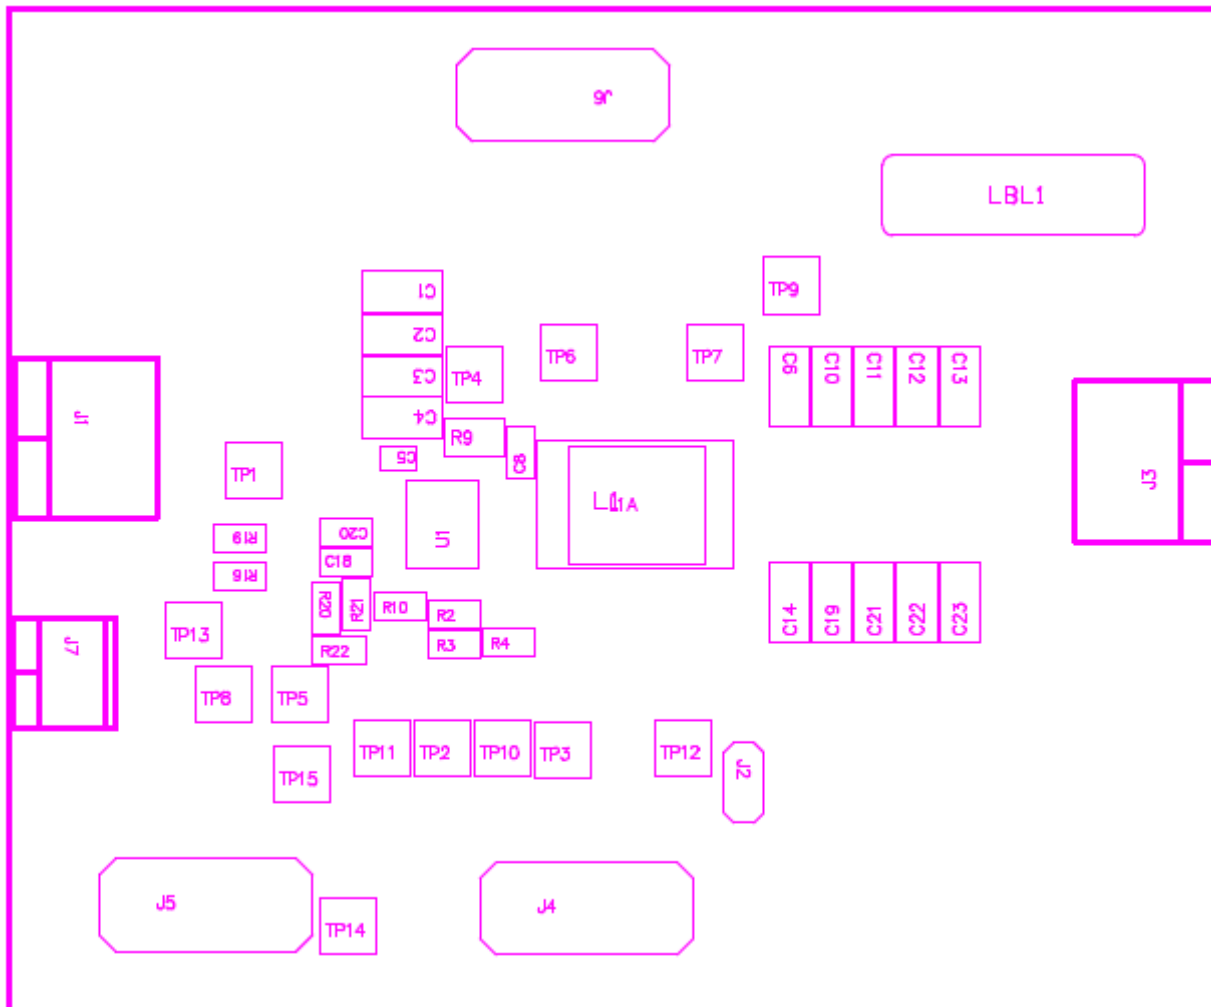

Figure 3. TPS53515EVM-587 Top Layer for Test Setup
Voltage Source—The input voltage source V_{IN} must be a 0 to 14-V variable-DC source capable of supplying 10 ADC. Connect V_{IN} to J1 as shown in Figure 3.
1. Prior to connecting the DC input-source, VIN, TI recommends to limit the source current from VIN to 10 A maximum. Ensure that VIN is initially set to 0 V and connected as shown in Figure 3.
1. Set up the EVM as described in Section 5 and Figure 3.